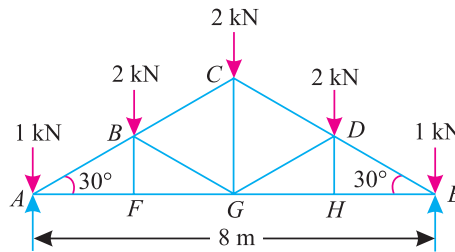

Fig. 14.7.
**Example 14.3.** A king post truss of 8 m span is loaded as shown in Fig. 14.7.